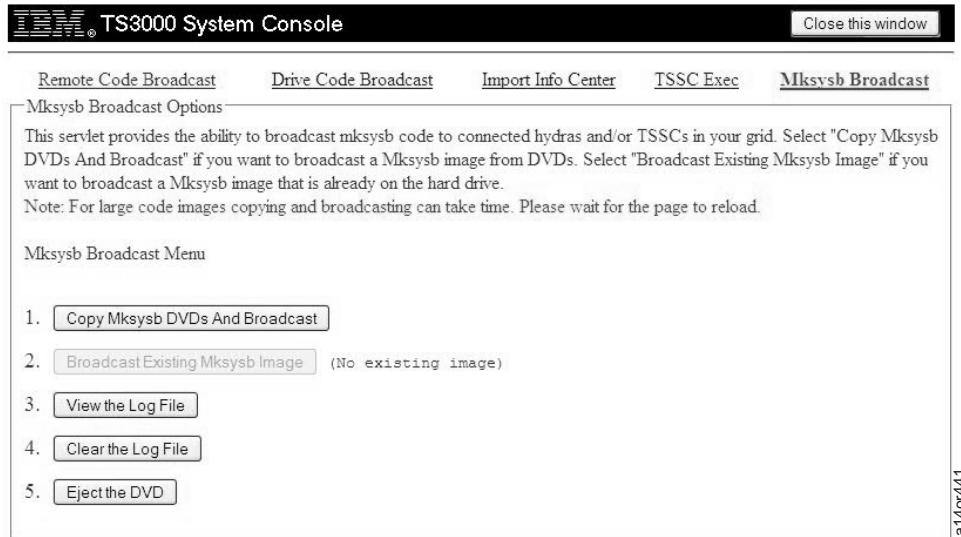

Figure 3-106. Mksysb Broadcast Screen
10. Select **System Tools → Mksysb Broadcast** link. See Figure 3-106 on page 3-83. Make the appropriate selection(s) as follows: